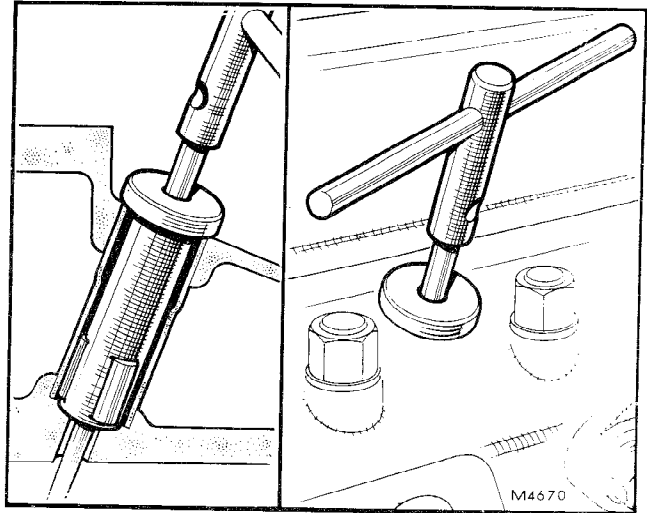

Fig. 4
9. Using the same procedure employed for the top portion, expand the bottom portion of the injector sleeve, using tool LC 174 (refer to Fig. 4).